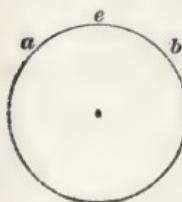

FIG. 39.
**68.** The **diameter** of a circle is a straight line passing through the center and terminated at both ends by the circumference; thus,  $A B$  (Fig. 39) is a diameter of the circle.